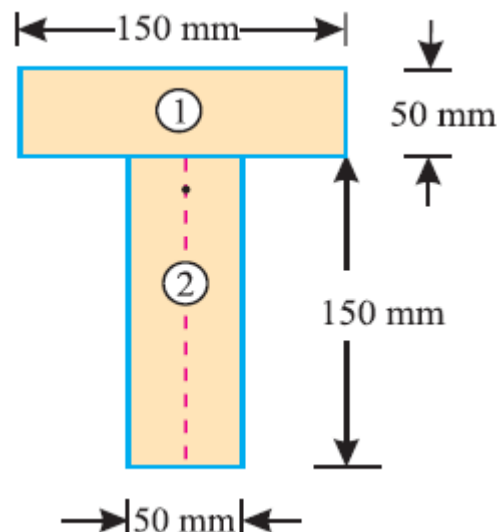

Fig.22
4. Find the moment of inertia of a T-section with flange as 150 mm \times 50 mm and web as 150 mm \times 50 mm about X-X and Y-Y axes through the center of gravity of the section as shown in fig..22 [10 M]